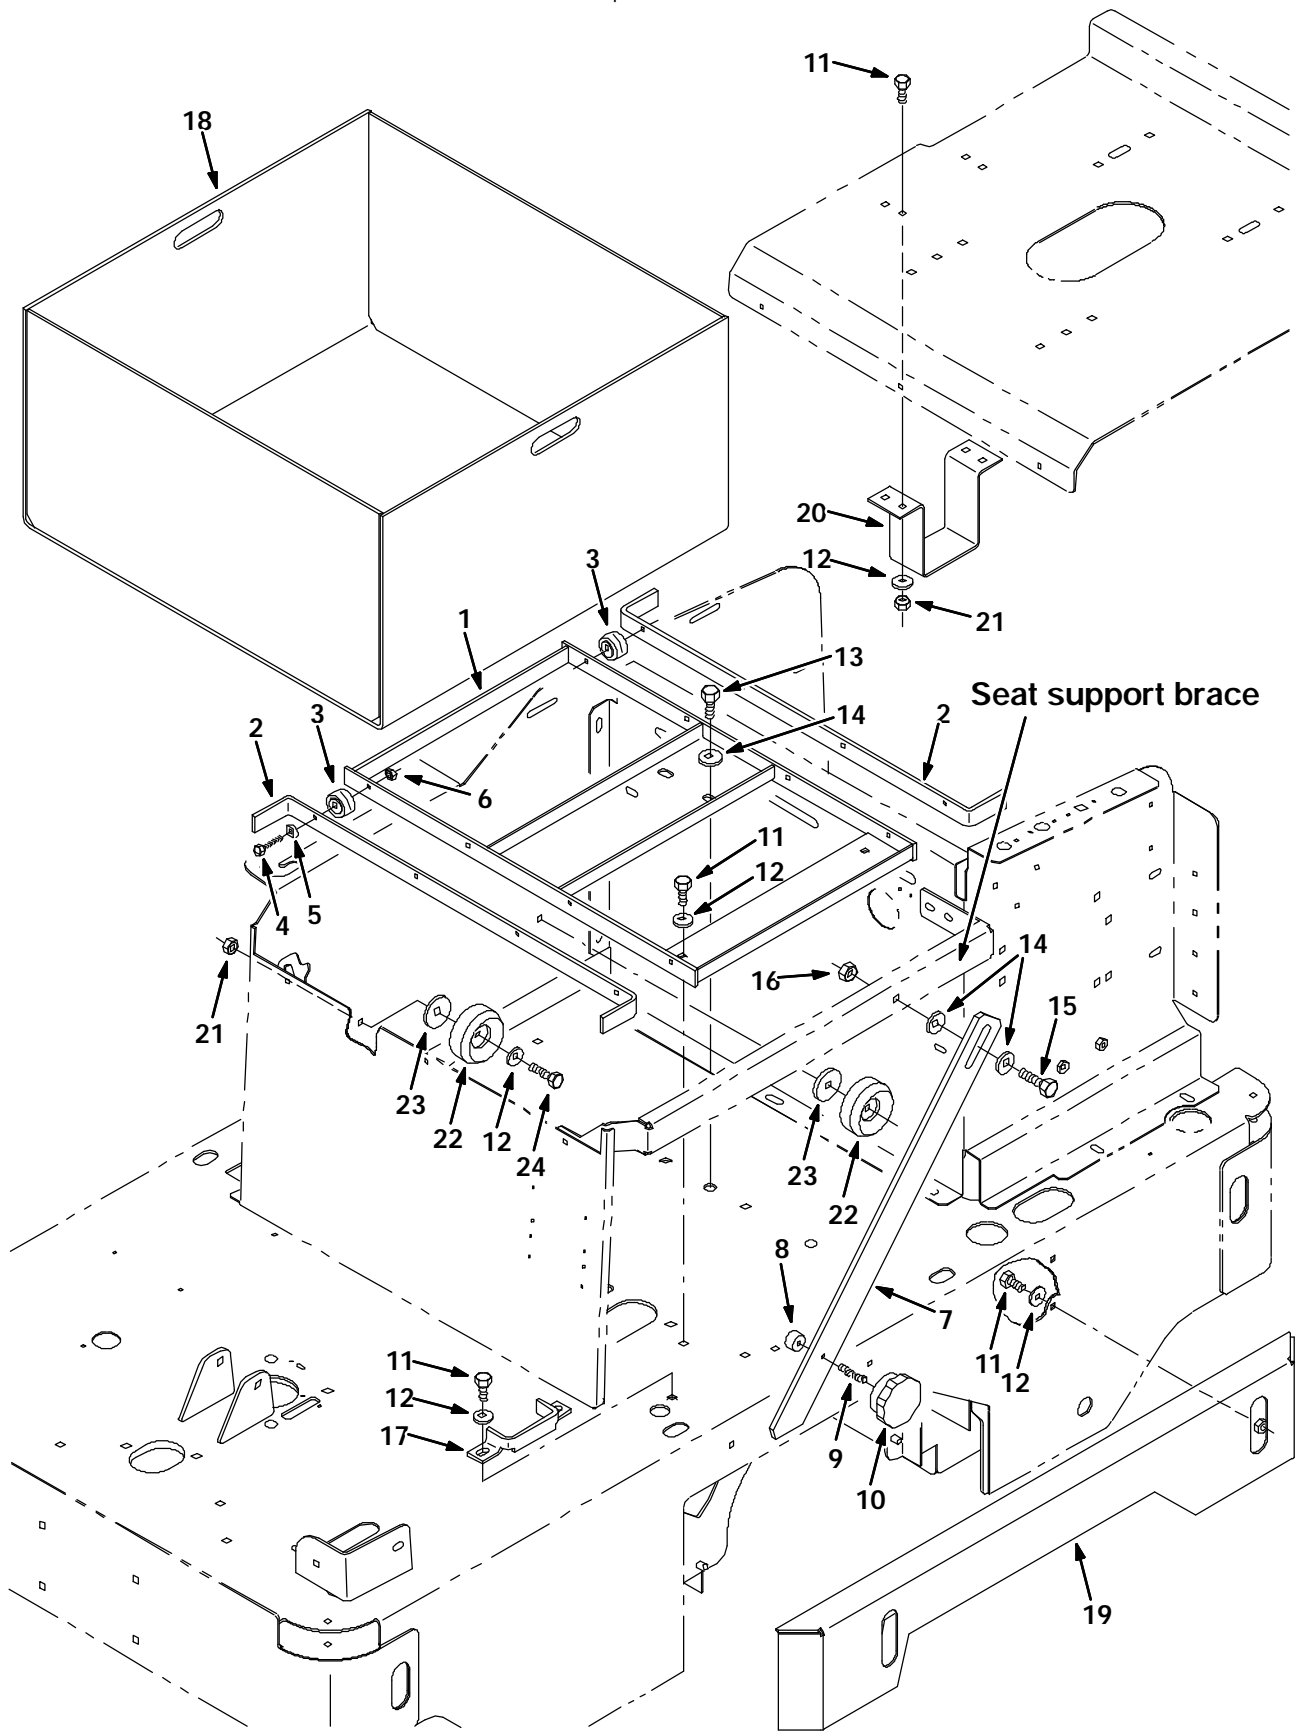

FIG. 2 Rollout Battery Case Kit Installation
(Refer to FIG. 2)
8. Mount the channel bumper (19) to the left side of the machine with hex screws (11) and flat washers (12). (Refer to FIG. 2)
9. Install the brace support bracket (17), with hex screws (11) and washers (12).
10. Mount the battery case brace (7) to the seat support brace with a hex screw (15), washers (14) , and a lock nut (16). (Refer to FIG. 2)
11. Apply a small amount of locktite (25) to one end of the threaded rod (9) and screw it into the knob (10). Thread the rod through the free end of the battery case brace (7). Apply another small amount of locktite (25) to opposite end of the threaded rod (9) and cap off with the rubber bumper (8). (Refer to FIG. 2)
12. Raise the battery case brace (7), and slide the rollout battery case (18) onto the battery roller bracket (1). (Refer to FIG. 2)
13. Lower the battery case brace (7) and place the free end into the brace support bracket (17). (Refer to FIG. 2)
14. Turn the knob (10) clockwise until the rollout battery case (18) is tight against the rubber bumpers (22) on the opposite side of the machine. (Refer to FIG. 2)
15. Install the entire battery group into the rollout battery case (18) in the same formation prior to removal. (Refer to FIG. 2)
16. Reconnect the the battery cables to the batteries in the same pattern they were connected prior to removal. (Refer to FIG. 2)